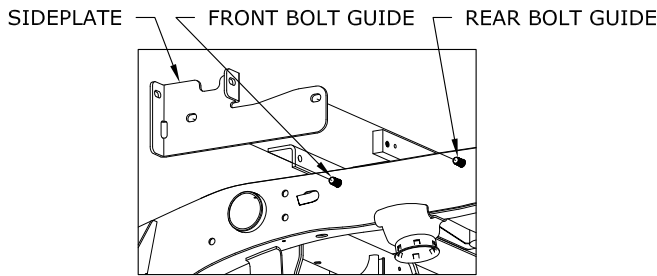
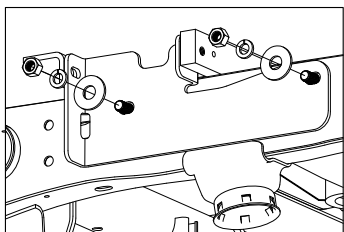
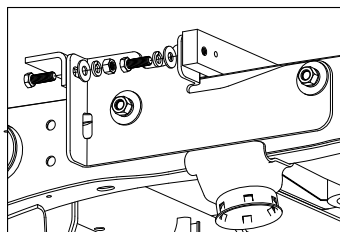

FIGURE C9: View from outside of Driver Side Frame
FIGURE C10: View from outside of Driver Side Frame
FIGURE C11: View from outside of Driver Side Frame
3. **Install the side plates.** Place each side plate over the $\frac{5}{8}$ " bolts held in place by the bolt guides, see figure C9. Attach the side plates to the frame with a flat washer, lock washer, and nut, see figure C10. Attach the side plates to the front and rear cross members with $\frac{1}{2}$ " hardware as shown in figure C11. Do not tighten the $\frac{5}{8}$ " or $\frac{1}{2}$ " hardware at this time.